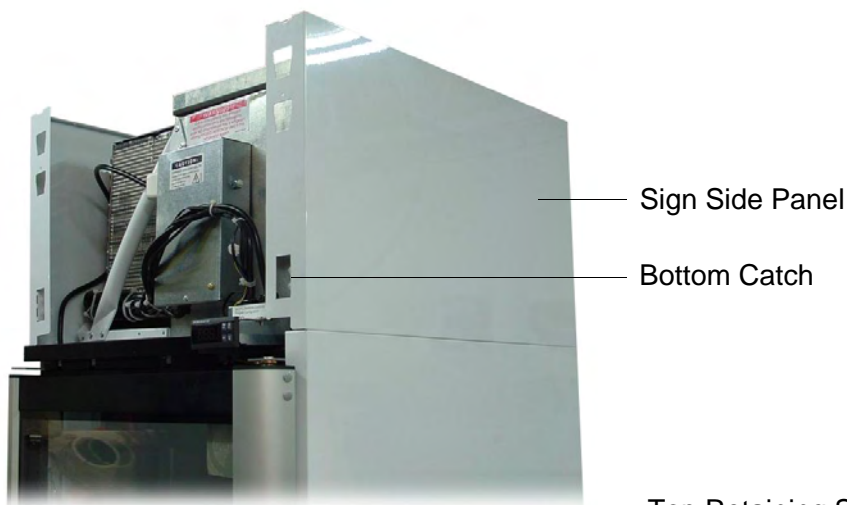

Figure 2: Sign Side Panels
2. Fit the left and right hand sign side panels in position, with the bottom catch on each panel facing forward (see Figure 2 below). Each side panel locates on two retaining screws on top of the cabinet. Ensure both side panels are flush with the edges of the cabinet before tightening the retaining screws.